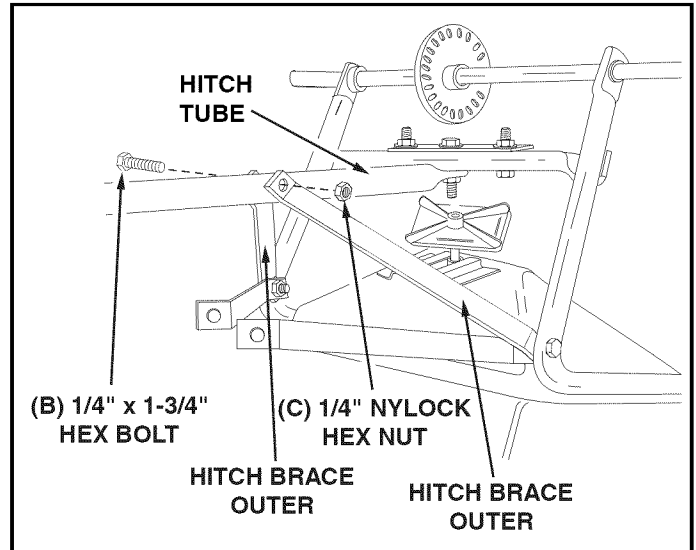

FIGURE 2
STEP 2: (SEE FIGURE 2)
4. Assemble the two **OUTER** hitch braces to the hitch tube using a 1/4" x 1-3/4" (B) hex bolt and a 1/4" nylock hex nut (C). **DO NOT TIGHTEN YET.** Do not assemble the inner hitch braces at this time.